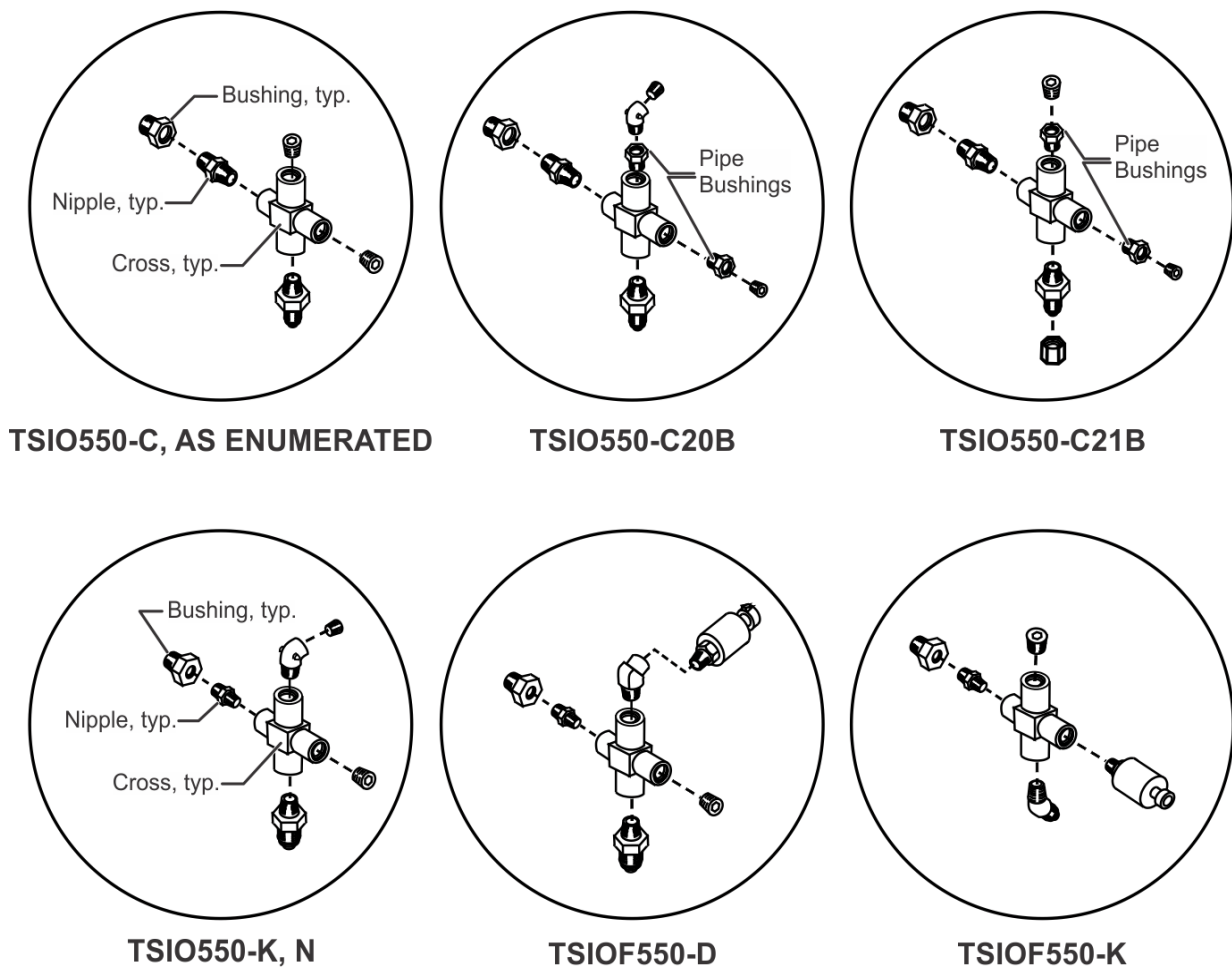
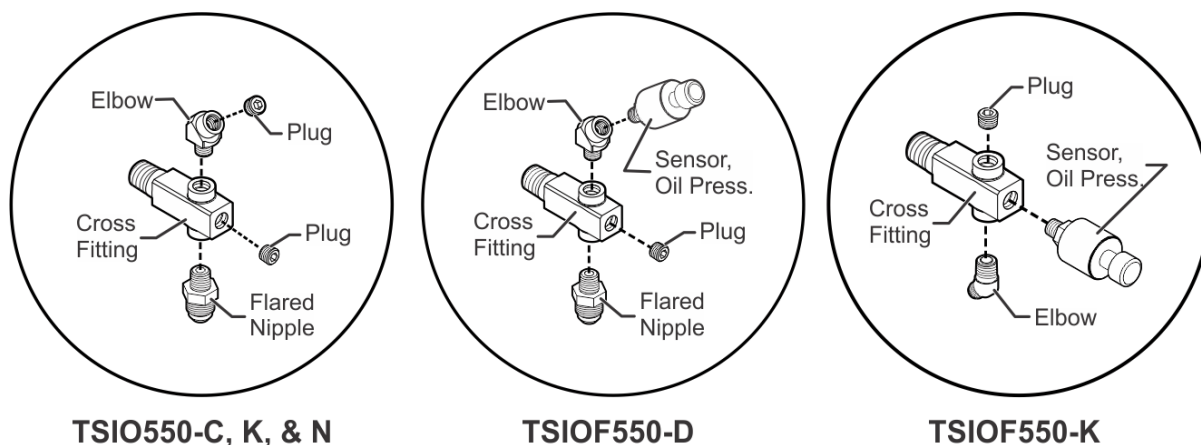

Figure 1. Cross Fitting Stack-Up, Prior Configurations
Figure 2. Cross Fitting, NEW Configurations
1. Eliminate the pipe bushing and nipple fitting stack-up (see Figure 1) typically found between the cross fitting and the oil cooler and replaces them with a single cross fitting (P/N 658607).
3. Add a new requirement for engine models TSIO550-C, -K and -N to use the AN915-1J 45-degree elbow fitting to install the oil pressure sensor (similar orientation as TSIOF550-D, see Figure 2).
4. Remove the additional pipe bushings (P/N AS4861J01) used for the oil pressure sensor and pipe plug previously installed on TSIO550-C20B and -C21B installations (see Figure 1). These bushings are obsolete (for this application) and will no longer be necessary for the new cross fitting installation; the AN915-1J 45-degree elbow fitting or pipe plugs fit directly into the new cross fitting (see Figure 2).